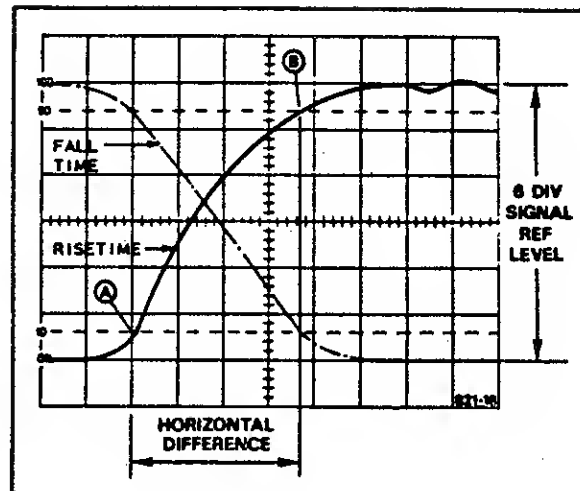

Fig 5-7
e. The waveform in Fig 5-7 has a Horizontal difference of 3.7 div. If the SEC/DIV was 4μsec and magnification was x1
f. Fall time is measured in the same manner, excepting the 90% fall point is aligned with a vertical graticule mark as shown by the dotted line in Fig 5-7.